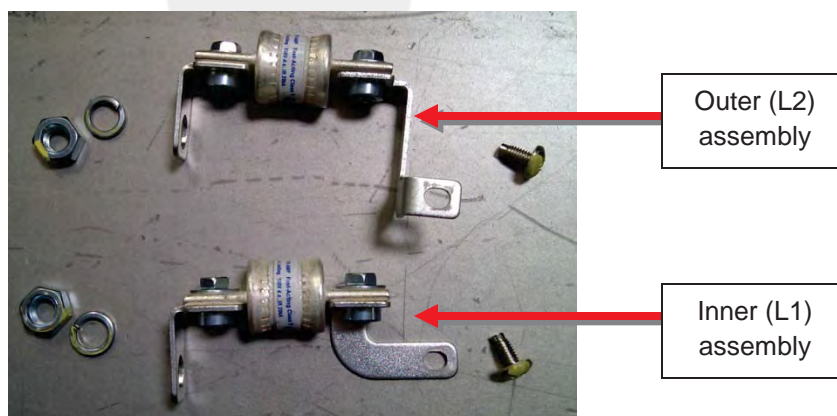

Figure 5
10. Use an 8 mm socket (torque 2 Nm) to remove the bus bar halves from both ends of each fuse. Note for later reinstallation that the lower bus bars are shaped differently for the outer and inner assemblies (Figure 5).